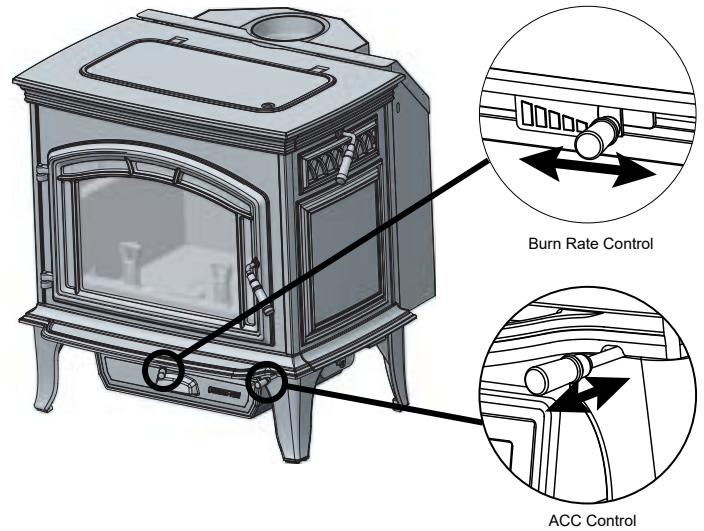

Figure 11.1
1. This appliance has a timer system (ACC) that operates the appliance at its maximum efficiency removing any guess work for the homeowner. Follow the instructions below for each burn rate for the Start-Up Air Control and Burn Rate Air Control (**Figure 11.1**).